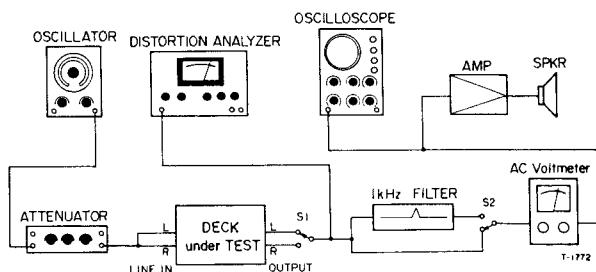

Fig. 5-1 Basic test setup
16. Erase efficiency	<ul style="list-style-type: none"> <li>• Connection — Fig. 5-1. But switch ON 1 kHz filter.</li> <li>• Record 1 kHz. Rewind tape to mid point of recorded portion. Do "no signal" recording. Get difference between 1 kHz portion and its erased portion.</li> </ul>
17. REC MUTE function	<ul style="list-style-type: none"> <li>• Connection — Fig. 5-1. But switch ON 1 kHz filter.</li> <li>• Record 1 kHz. Then push REC MUTE button for several sec. Rewind end play tape. Get difference between 1 kHz portion and the "no signal" portion.</li> </ul>
18. Channel separation	<ul style="list-style-type: none"> <li>• Connection — Fig. 5-1. But do not connect LINE IN (R), switch ON 1 kHz filter.</li> <li>• Set deck in record mode. Find differences between 1 kHz recorded portion (L-ch) and "no signal" portion (R-ch).</li> </ul>
19. Adjacent track crosstalk	<ul style="list-style-type: none"> <li>Connection — Fig. 5-1. But do not connect LINE IN (L) and OUTPUT (L).</li> <li>Record 125 Hz on R-ch. Note output level of its recorded portion.</li> </ul> Invert tape and play R-ch track. Check leakage level against the output reference of previously recorded portion.